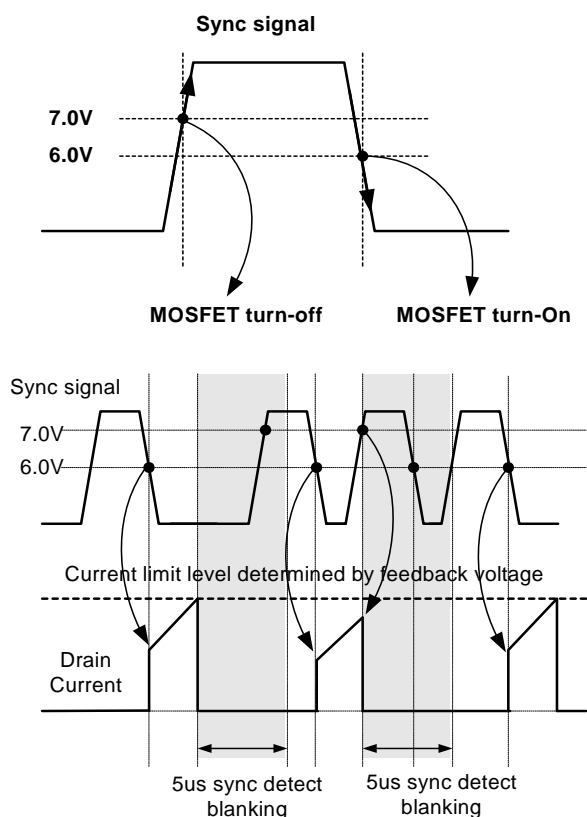

Figure 9. Synchronization Operation
4. Synchronization : Since the FSES0765RG is designed for CRT Monitor applications, this device has a synchronization function to minimize the screen noise. The MOSFET is turned on being synchronized to the external synchronization signal as shown in figure 9. In order to reduce voltage stress on the secondary side rectifier, a double pulse prevention function is included as well. The MOSFET's turn-on is inhibited for 5us after the MOSFET is turned off in order to eliminate a double pulse situation.